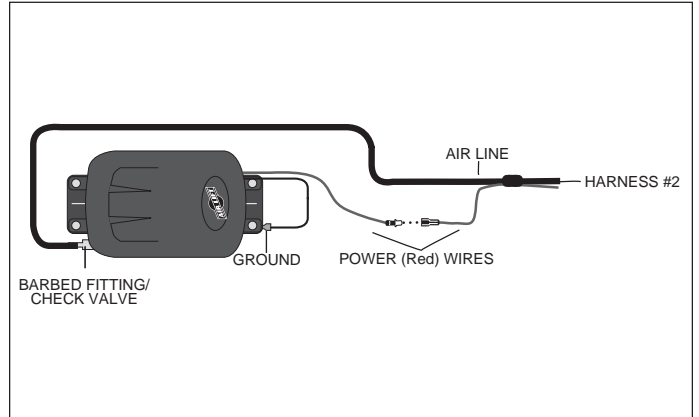
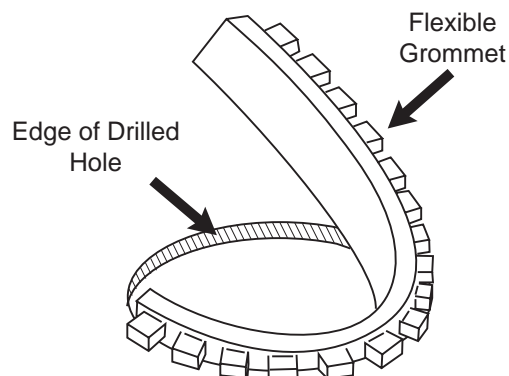

Figure 5
Figure 8
4. Attach Harness #2 to the Compressor unit. Push the air line completely over the barbed fitting on the compressor and connect the power wire (red) (Figure 5).
Route Wiring Harness #2 from the compressor. Use existing grommets in the floorboard or firewall to route the Harness from the compressor to the low pressure sensor. A hole may have to be drilled to allow access for the Harness. Drill a $^{5}/_{8}$ " diameter hole and install the provided grommet (Figure 8). It will be necessary to seal any grommets or holes that have been cut, drilled or removed so as not to allow elements to enter the cab area of the vehicle (Figure 5).